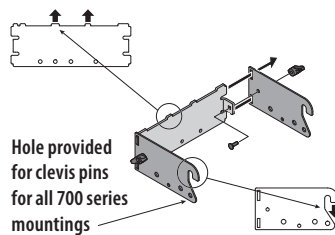

Figure 3
1. Attach the two hitch side brackets to the rear support bracket (rider hitch bracket assembly 689-00304A) using two carriage bolts (710-0276) and wing knobs (720-04122) from hardware pack 689-02364. See Figure 3.
NOTE: The hooks on the side brackets should point downwards and the tabs on the rear plate point upwards as shown in Figure 3.